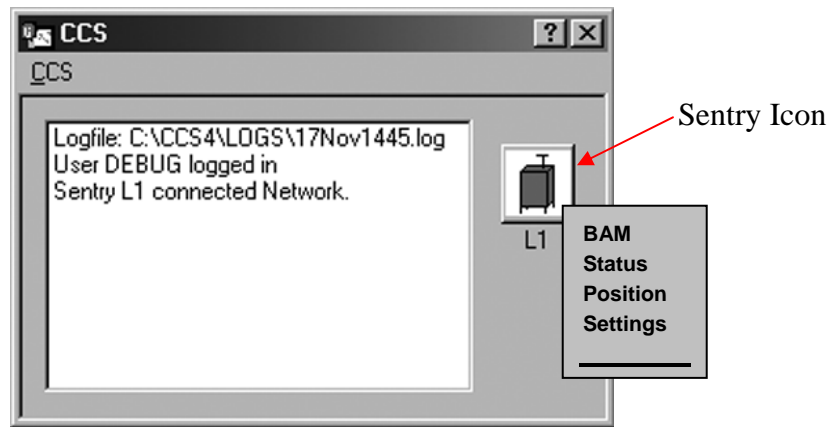

FIGURE 6. Sentry Menu
- Clicking on the Sentry icon presents a menu as shown in Figure 6. Functions of each menu item are described in Table III.
9. Selecting POSITION on the menu shown in Figure 6 presents the panel shown in Figure 10.
10. Selecting **SETTINGS** on the menu shown in Figure 6 presents the password panel discussed previously. Upon successful log in, the panel shown in Figure 11 appears. Users may be added or deleted for the settings panel as described in the Password Management section of this manual.